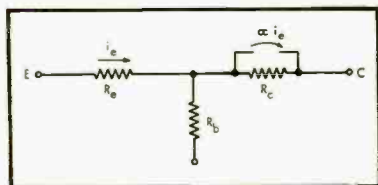
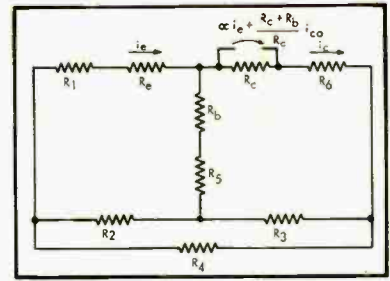

Fig. 6. Small-signal equivalent circuit for transistors, used in the derivation.
Fig. 8. Derivation of i_c/i_{co} proceeds from this diagram, which merely uses Fig. 6 circuit in the configuration of Fig. 7.
Fig. 8. Equivalent circuits for the low- and high-frequency response of a transformer operating between capacitive source and load. (A), the equivalent for low frequency response, and (B), the equivalent for high-frequency response.
The derivation of complete formulas for S proceeds from the transistor equivalent circuit shown in Fig. 6. This equivalent circuit uses three resistances, one associated with each lead, and an active element in the form of a current generator αi_e shunting the collector resistance R_c . Since α is defined as the short-circuit current gain,
And since $R_b \ll R_c$ normally, $a \approx \alpha$. It should be stressed that this equivalent circuit is not the only possible one, but it is very widely used because engineers like to think intuitively of a resistance in series with each lead. However, the collector resistance, the emitter resistance, and the base resistance do not represent the lead resistance and bulk resistance of the germanium, but rather are incremental resistances due to all causes. Do not confuse the small-signal equivalent circuit shown in Fig. 6 with the structure of an actual transistor.
The derivation of the complete general formula for the circuit of Fig. 7, using the small-signal equivalent circuit shown in Fig. 6, is quite complex. The circuit of Fig. 8 illustrates the objective: that of determining the incremental ratio i_c/i_{co} in terms of the four transistor parameters R_c , R_b , R_e , and α , and the six circuit resistors R_1 , R_2 , R_3 , R_4 , R_5 , and R_6 . This particular bias configuration is used, because a large number of circuits of practical interest may be made by specializing the circuit values of resistance. $\left(\frac{R_c + R_b}{R_c} i_{co}\right)$ is used to be